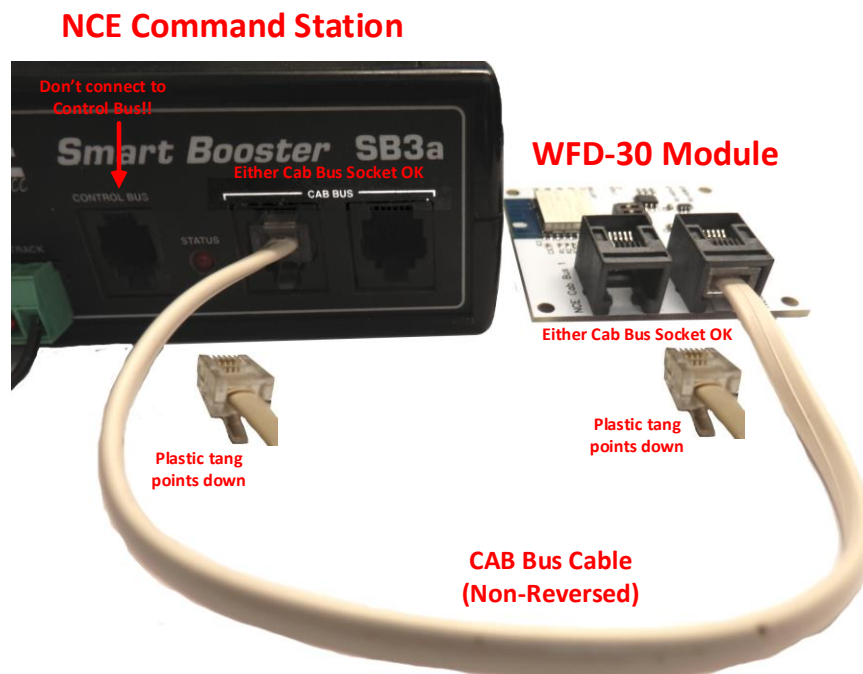

Figure 2 Connecting the WFD-30 Module to your NCE Command Station
- (2) **Mounting:** Mount your WFD-30 Module in a convenient location where nothing metal will touch it, either in a plastic box or at a convenient location on your baseboard or fascia. Please see the “Mounting Suggestions” section. As a minimum, make sure it will not be dragged around by pulling on a connected cable and touch on some metal object. **Do not let the unit touch powered track or it may be damaged beyond repair!**
- (3) **Connect:** Use an NCE Cab Bus cable to connect to your NCE Command Station as in Figure 2. Make sure your NCE Command Station is connected to power and track or booster according to its instructions. Turn on power to your NCE Command Station. The WFD-30 module gets its power from the command station via the CAB Bus.